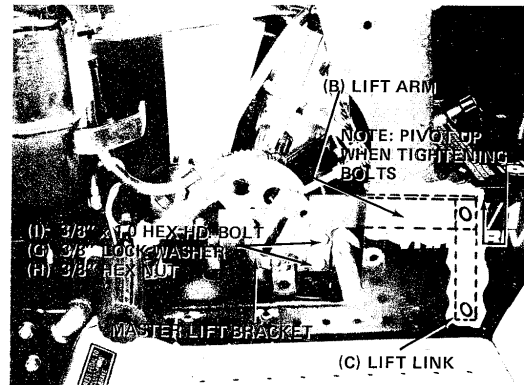

FIGURE 10
6. Assemble lift arm and lift link, sub-assembled in step 4, to master lift bracket using two 3/8" x 1.0" hex head bolts (I), 3/8" lock washers (G) and 3/8" hex nuts (H) as shown in figure 10. See figures 6 and 10.
NOTE: Pivot lift arm assembly upward and hold when tightening. See figure 10. The lift arm (B) does not require removal to re-install cutting deck. The lift link (C) should be removed when re-installing cutting deck.